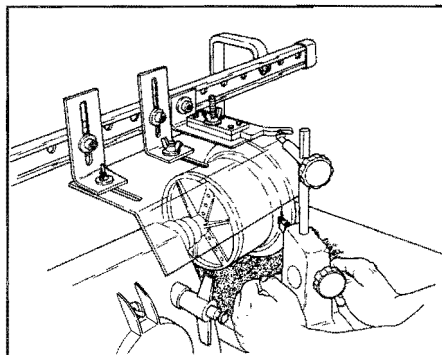

Figure 16. Rough shape the outside profile first.
7. Rough shape the outside profile first. (See Figure 16.) Turn the outside profile first. Cut your beads and coves "uphill" in the same manner as you would for spindle turning.